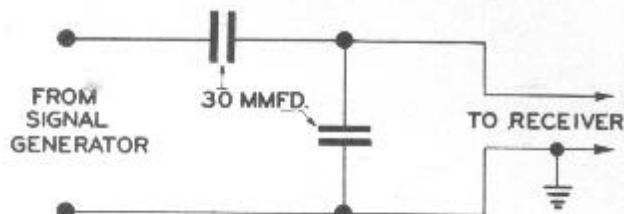

Figure 12. Dummy Antenna
Figure 12 shows the schematic of a recommended dummy antenna closely resembling actual antenna capacity to be used when aligning the R.F. section of the receiver.
1. Connect signal generator leads through dummy illustrated in figure 12 to antenna lead in socket on receiver.
3. Connect signal generator leads through dummy illustrated in figure 12 to antenna receptacle on the receiver.